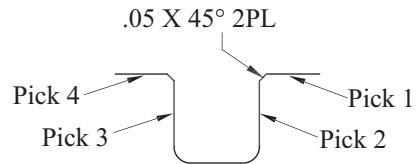

Figure 21
52. **Pick the necessary lines as shown in Figure 21 and press Enter to accept.**